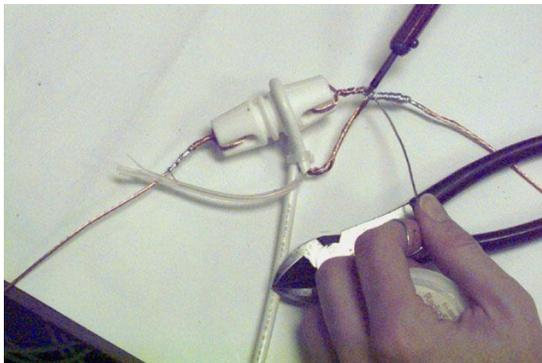

Figure 5.4. Solder the shielding and center conductor to the copper wires. Figure 5.5. Install the ferrite toroid cores.
7. ○ Solder the coax center conductor and shield to the copper wires (we recommend using a soldering gun or a soldering iron of at least 50 watt capacity). Use plenty of solder and heat the wires until the solder seeps into the wires. Apply heat all around the connection to achieve a good flow of solder (Figure 5.4).